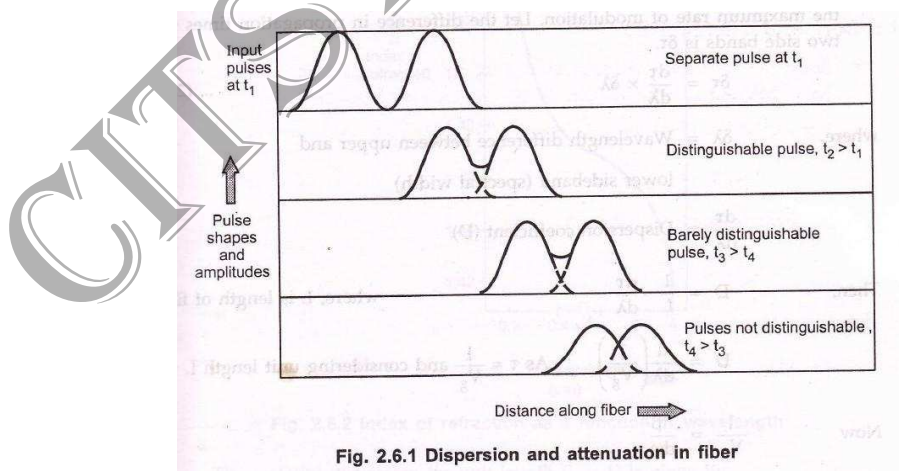

Fig. 2.6.1 Dispersion and attenuation in fiber
x Dispersion and attenuation of pulse travelling along the fiber is shown in Fig. 2.6.1.
- x Fig. 2.6.1 shows, after travelling some distance, pulse starts broadening and overlap with the neighbouring pulses. At certain distance the pulses are not even distinguishable and error will occur at receiver. Therefore the information capacity is specified by bandwidth-distance product (MHz . km). For step index bandwidth distance product is 20 MHz . km and for graded index it is 2.5 MHz . km.